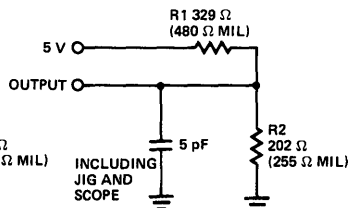

Figure 1b
7. tHZCE and tHZWE are specified with CL = 5 pF as in Figure 1b. Transition is increased ± 500 mV from steady state voltage.